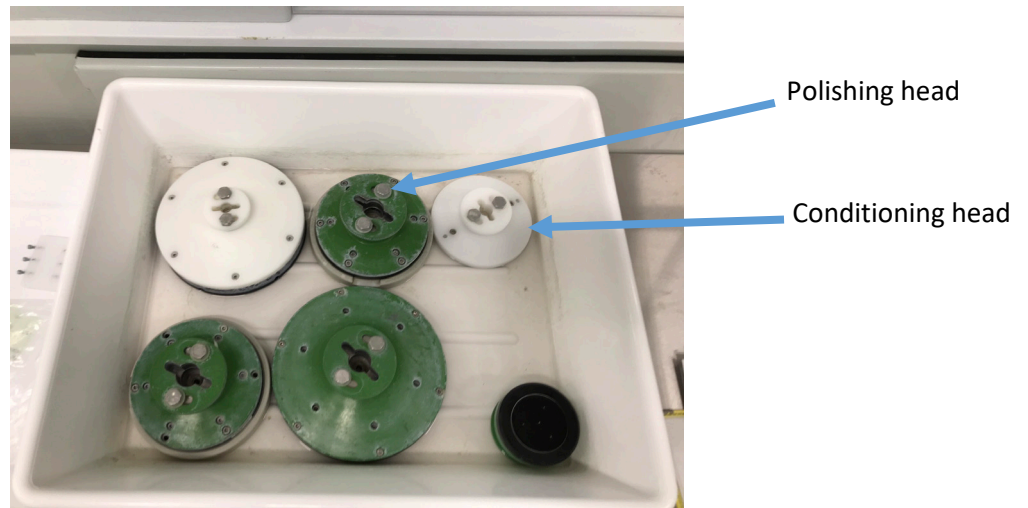
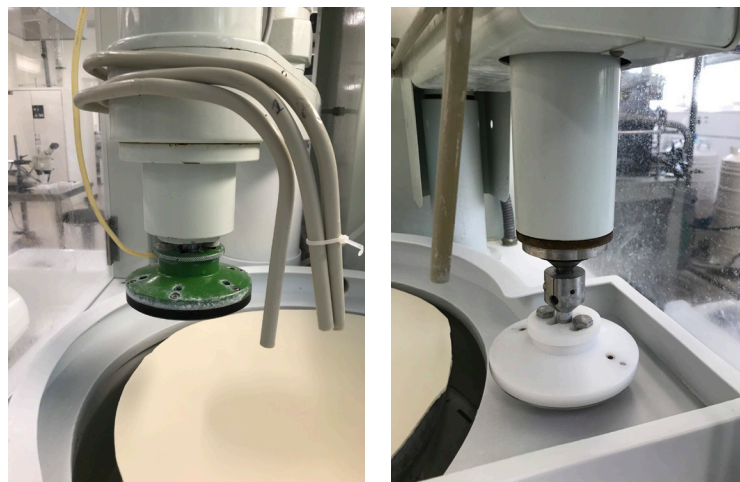

Fig. 4 : Polishing and conditioning heads
Fig. 5 : Mounted Polishing head (left) and Conditioning head (right)
- e. Take off the carpet/towels covering the polishing pad. Take the polishing head in the tray (Fig. 4) and humidify the joint, and secure the polishing head to the axis after humidifying the plastic joint (Fig. 5 left). Take the conditioning head and secure it to the axis (Fig. 5 right). There is a dedicated polishing head and a conditioning head for copper that are labeled "Cu". The non-labelled heads are for other materials (Si, SiO_2 , etc...). Make sure to check that the polishing head configuration is adapted to the thickness of the wafer to be polished. **Polishing heads are designed for 525 μm wafers. For every other dimensions, it is essential to change the black ring of the polishing head (contact staff).**